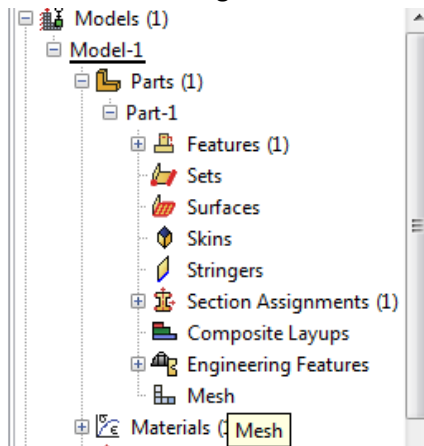

Figure 11
- Under the Part menu select Mesh as shown in figure 11